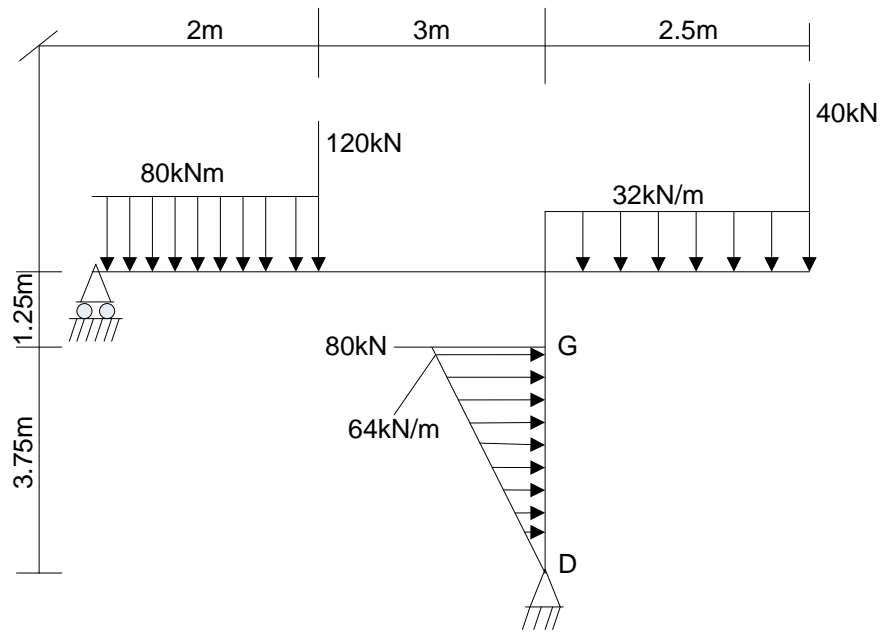

Figure3
3. For the frame structure shown in Figure 3, determine the reactions at A and B and sketch the quantitative shear force diagram (SFD), bending moment diagram (BMD) as well as the deflected shape due to the loading shown.